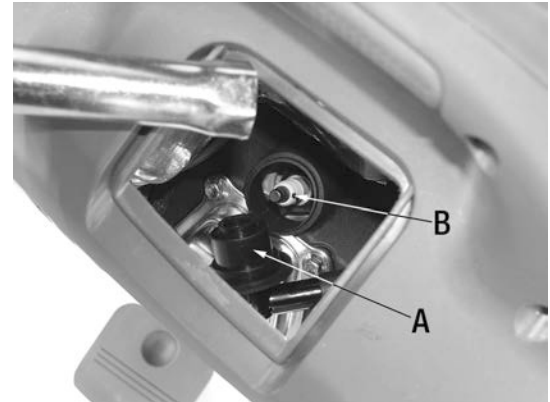

Figure 9
- 2) Dismantle the spark plug cap (A) Fig.9 by pulling it off the spark plug. Using the supplied spark plug wrench, undo the spark plug (B) by turning it counterclockwise.